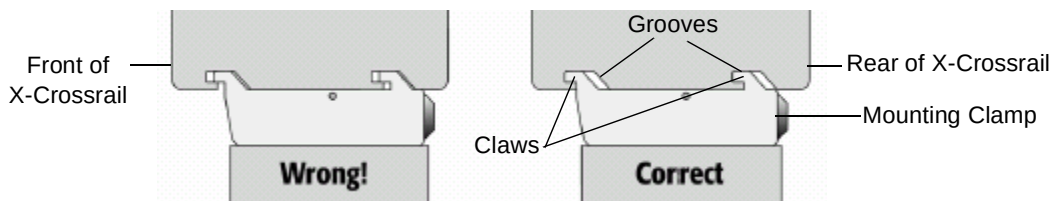

Figure 2-4 Attaching the Mounting Claws (Left Side View)
4. Carefully inspect the legs and claws to make sure they are correctly attached to the X-crossrail (Figure 2-4). Push each component completely to the rear of the crossrail so that the claws are tight in the front and back grooves.